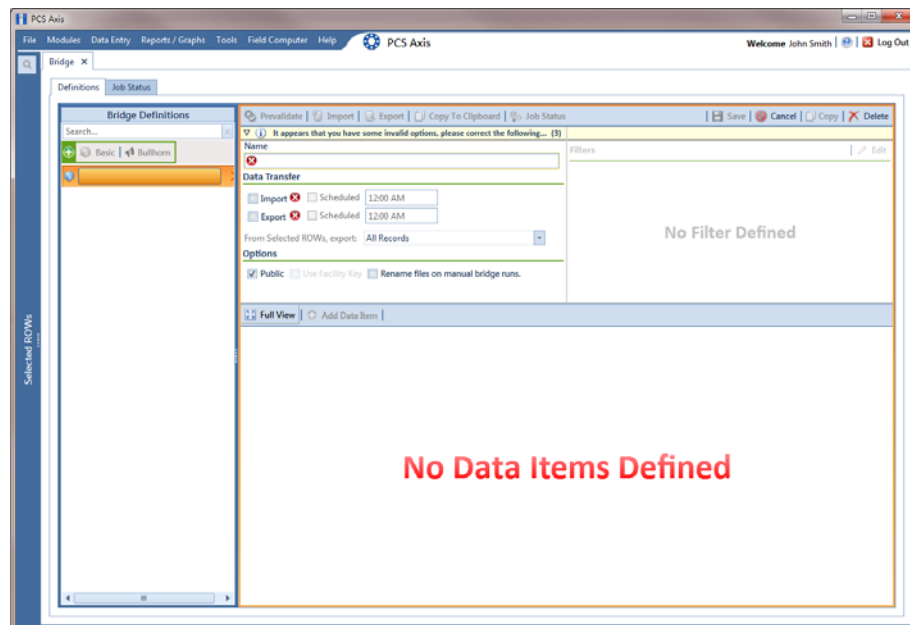

Figure 9-5. Basic Definition Panel
- 3 Click  **Basic** to open the basic definition panel (Figure 9-5).